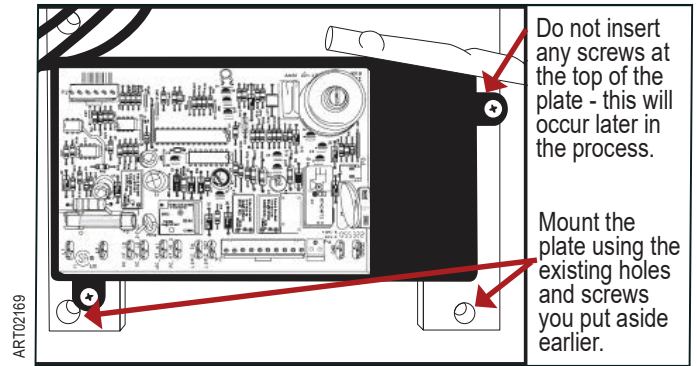

Fig. 9 Mount the adapter plate
- Mount the adapter plate to the back panel. Refer to Fig. 9.